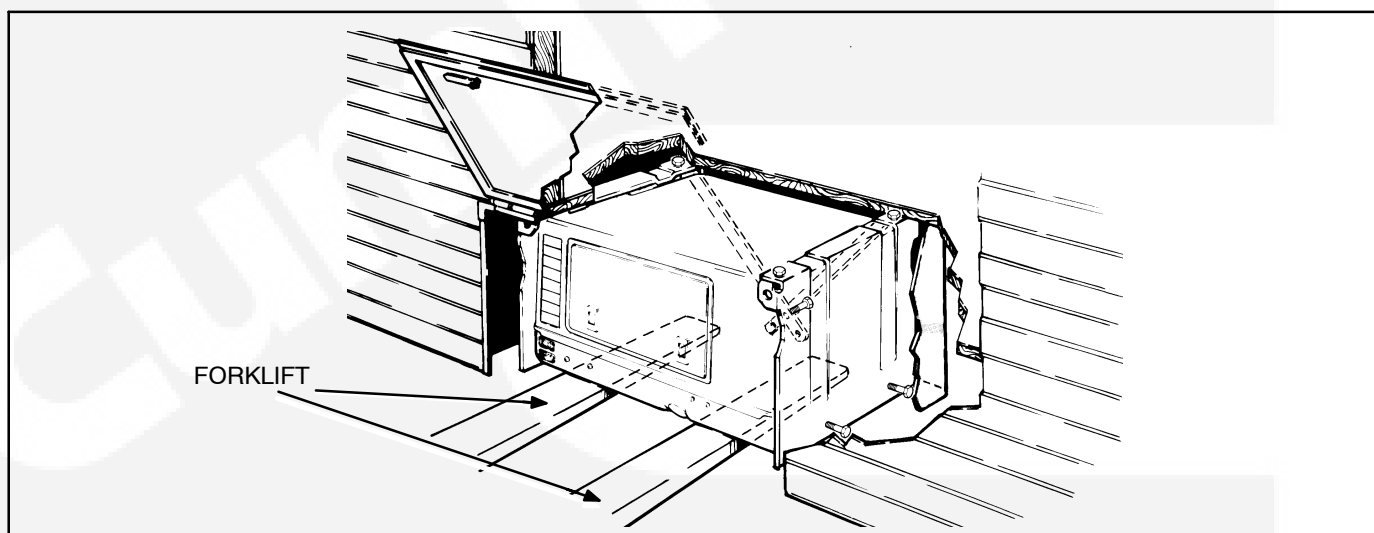

FIGURE 5-4. COMPLETE SET REMOVAL (MODEL KV)
2. Use a forklift truck to support the weight of the genset at the points shown in Figure 5-4.